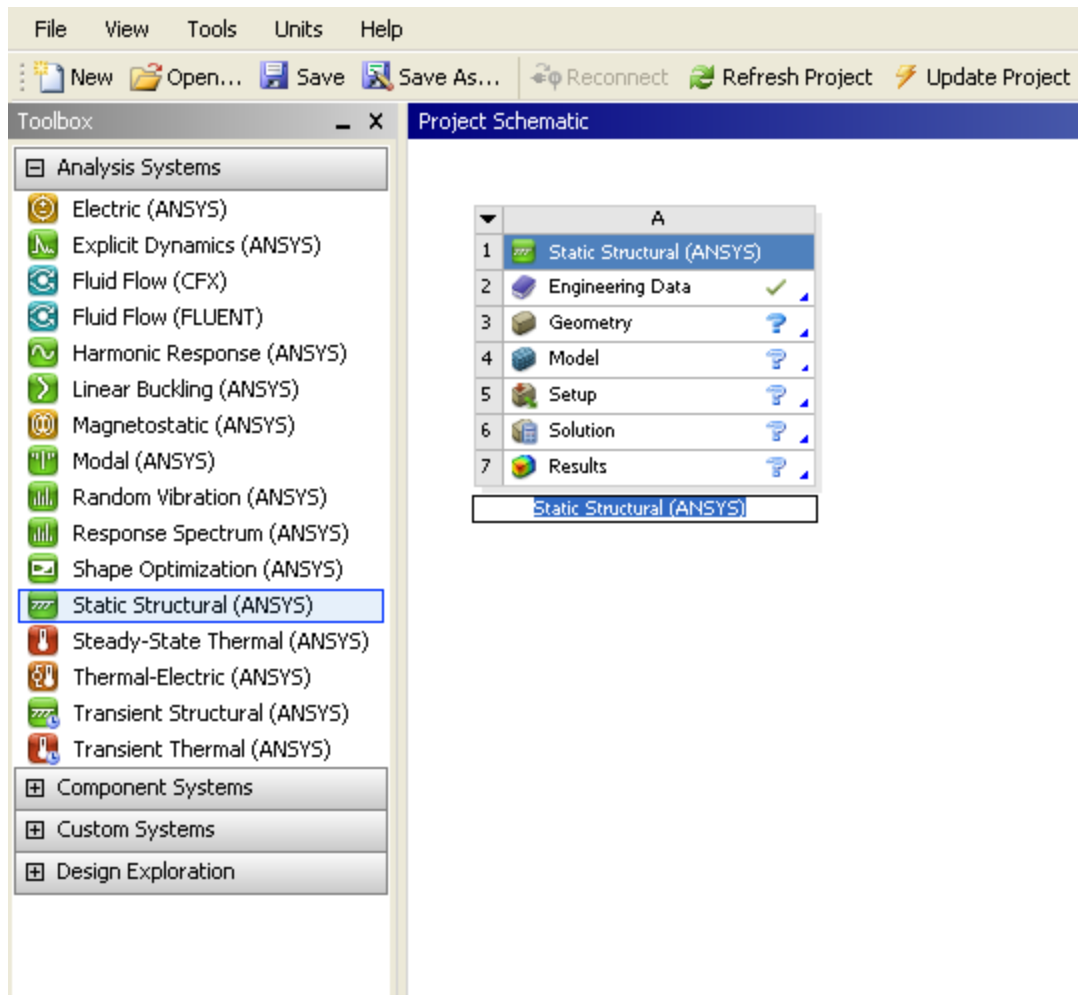

Figure 2 Workbench Project Mode
1. Drag **Static Structural (ANSYS)** tab from **Analysis Systems** of **Toolbox** window to the **Project Schematic** window. Now, your static structural analysis model should be in the **Project Schematic**, as Fig.2 shows.